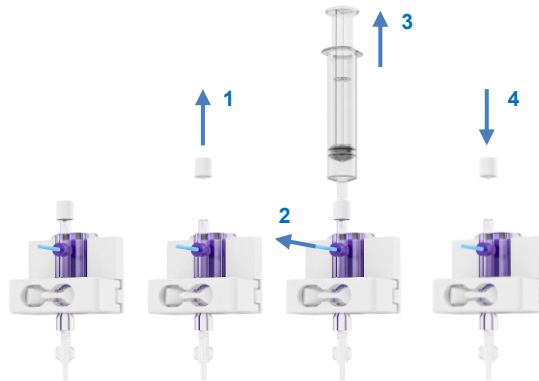

Figure 22 De-airing the pressure sensor
- Place the white cap on the oxygenator, Figure 22.
- Remove the cap on top of the pressure sensor and place a sterile syringe on the port (Figure 22; step 1).
- To fill the pressure line and remove any air, pull the blue snap tab (Figure 22; step 2) while aspirating with the syringe (step 3). Stop once the air has been removed.
- Place the cap back on the pressure sensor (Figure 22; step 4)